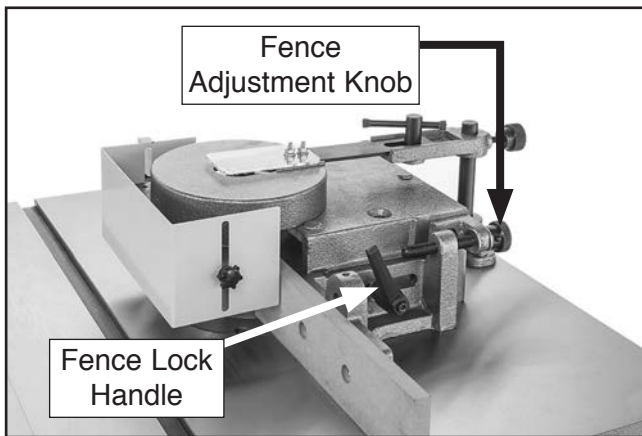

Figure 39. Location of fence adjustment controls.
1. Loosen the fence lock handle (see **Figure 39**).
2. Turn the fence adjustment knob (see **Figure 39**) until the fence is set to the desired position.